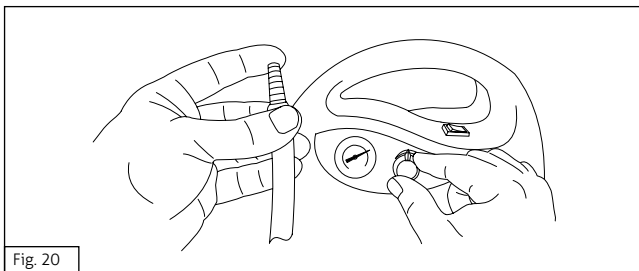
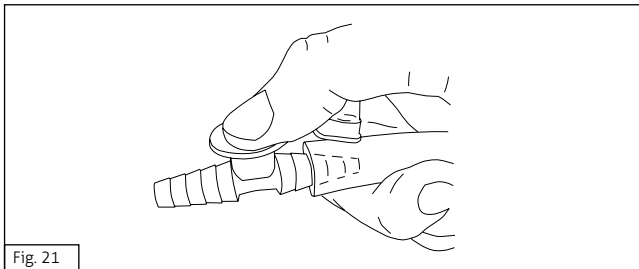

Fig. 20
Fig. 21
2. Keep the opening of the suction tube (fig. 20) and of the fingertip (fig. 21) shut.
2. Control the aspiration procedure and the desired vacuum using the additional air opening on the fingertip (fig. 21).